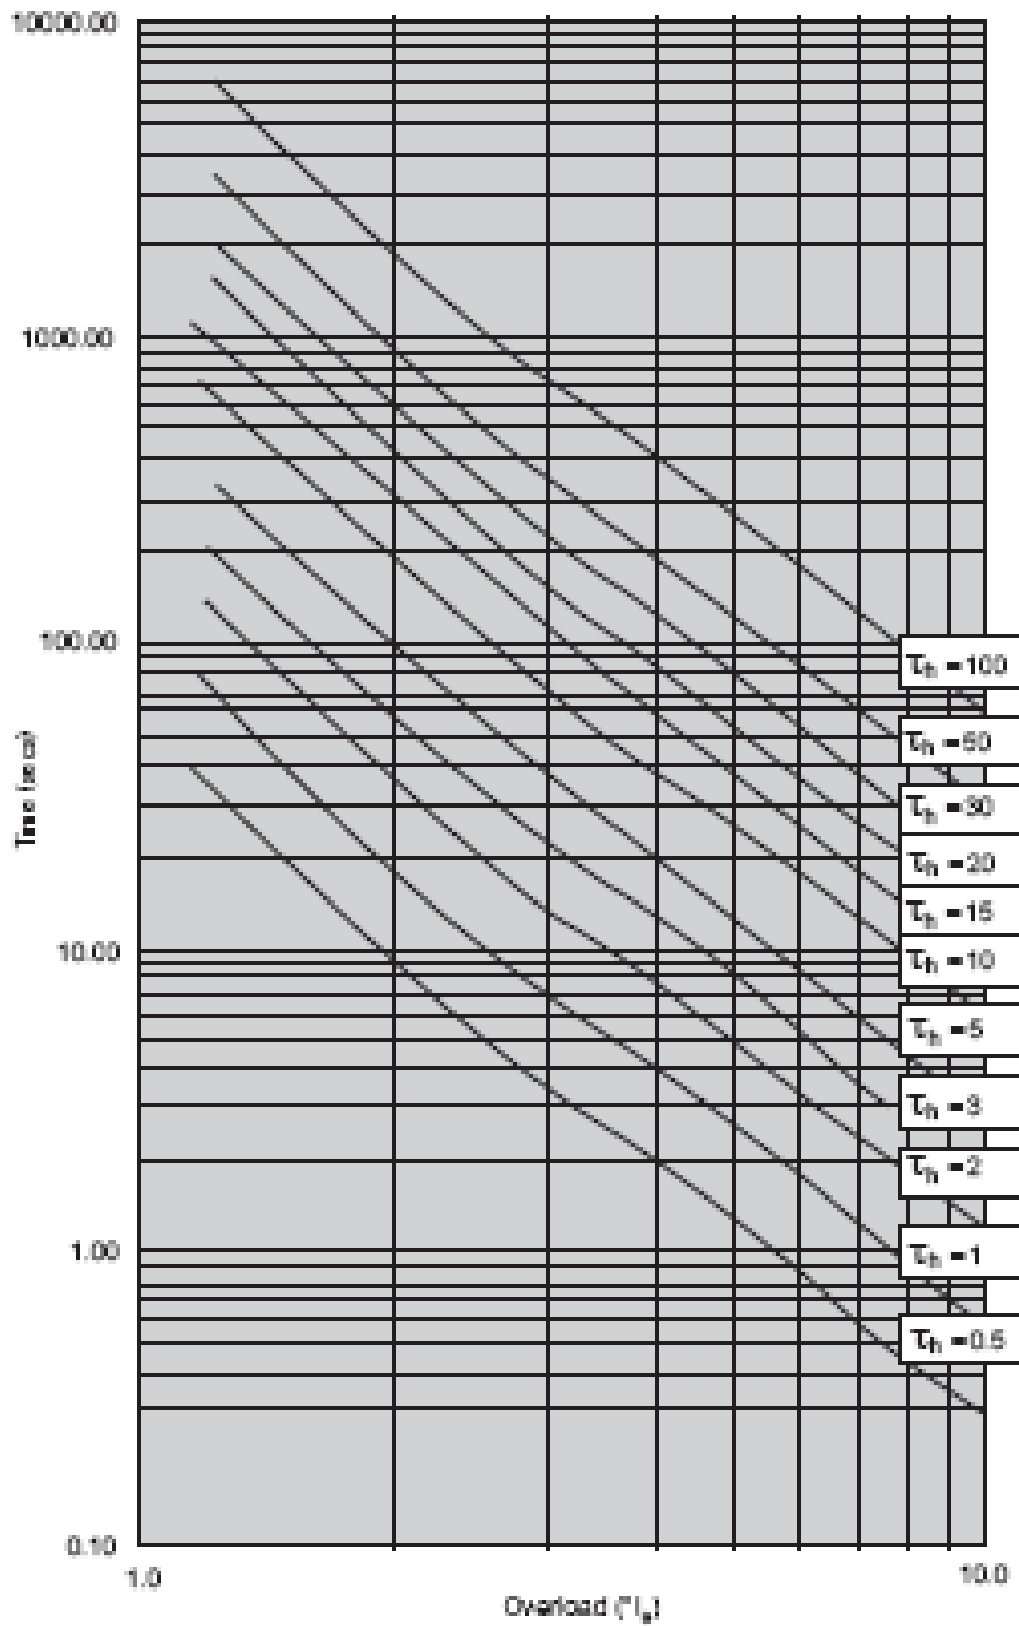

Figure 1 - Thermal overload (cold) characteristics
The relay heating time constant τ_h is settable from 0.5 to 100 minutes in 0.5 steps, figure 1 shows the family of curves. Using the example of the motor parameters quoted under item 2 above and reading values from Figure 1:-
At a locked rotor current of 5 x FLC (which is about the starting current) and a run-up time of 4 seconds and allowing two consecutive starts i.e. 8 seconds total run-up time, the τ_h value from figure 1 is just over 3 minutes. As the safe stall time from cold is 11 seconds, the τ_h value could be set to 5. The stall time from hot, i.e. 7 seconds gives a τ_h value of 3. If this lower value of 3 is chosen, there is the possibility of nuisance tripping after the motor has been in service for some time with longer run-up times and higher currents. It would be better to select the value of 5 which allows two starts in quick succession. Of course, if the actual τ_h heating time constant of the motor is given by the manufacturer, then this figure could be set on the relay.